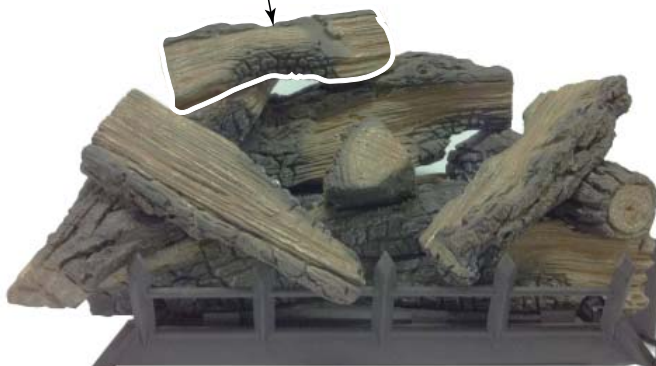

Figure 50
12. Place log #12 onto mid left log (#8) and mid rear log (#7) by placing notch on bottom of log onto locating block on log #8. Rest right end of log onto top of log #7. *Figure 50*